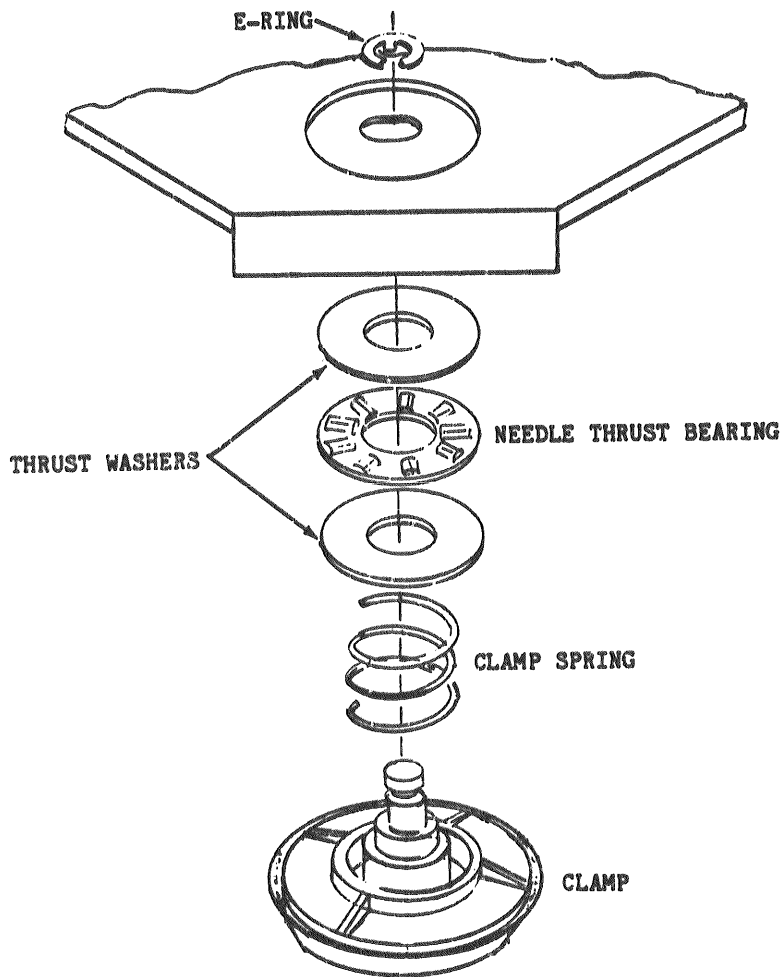

Figure 6-17. Disk Clamp Assembly
- a. While holding the disk clamp assembly, take off the E-Ring that holds the assembly to the outer structure (see Figure 6-17). Then remove the assembly.